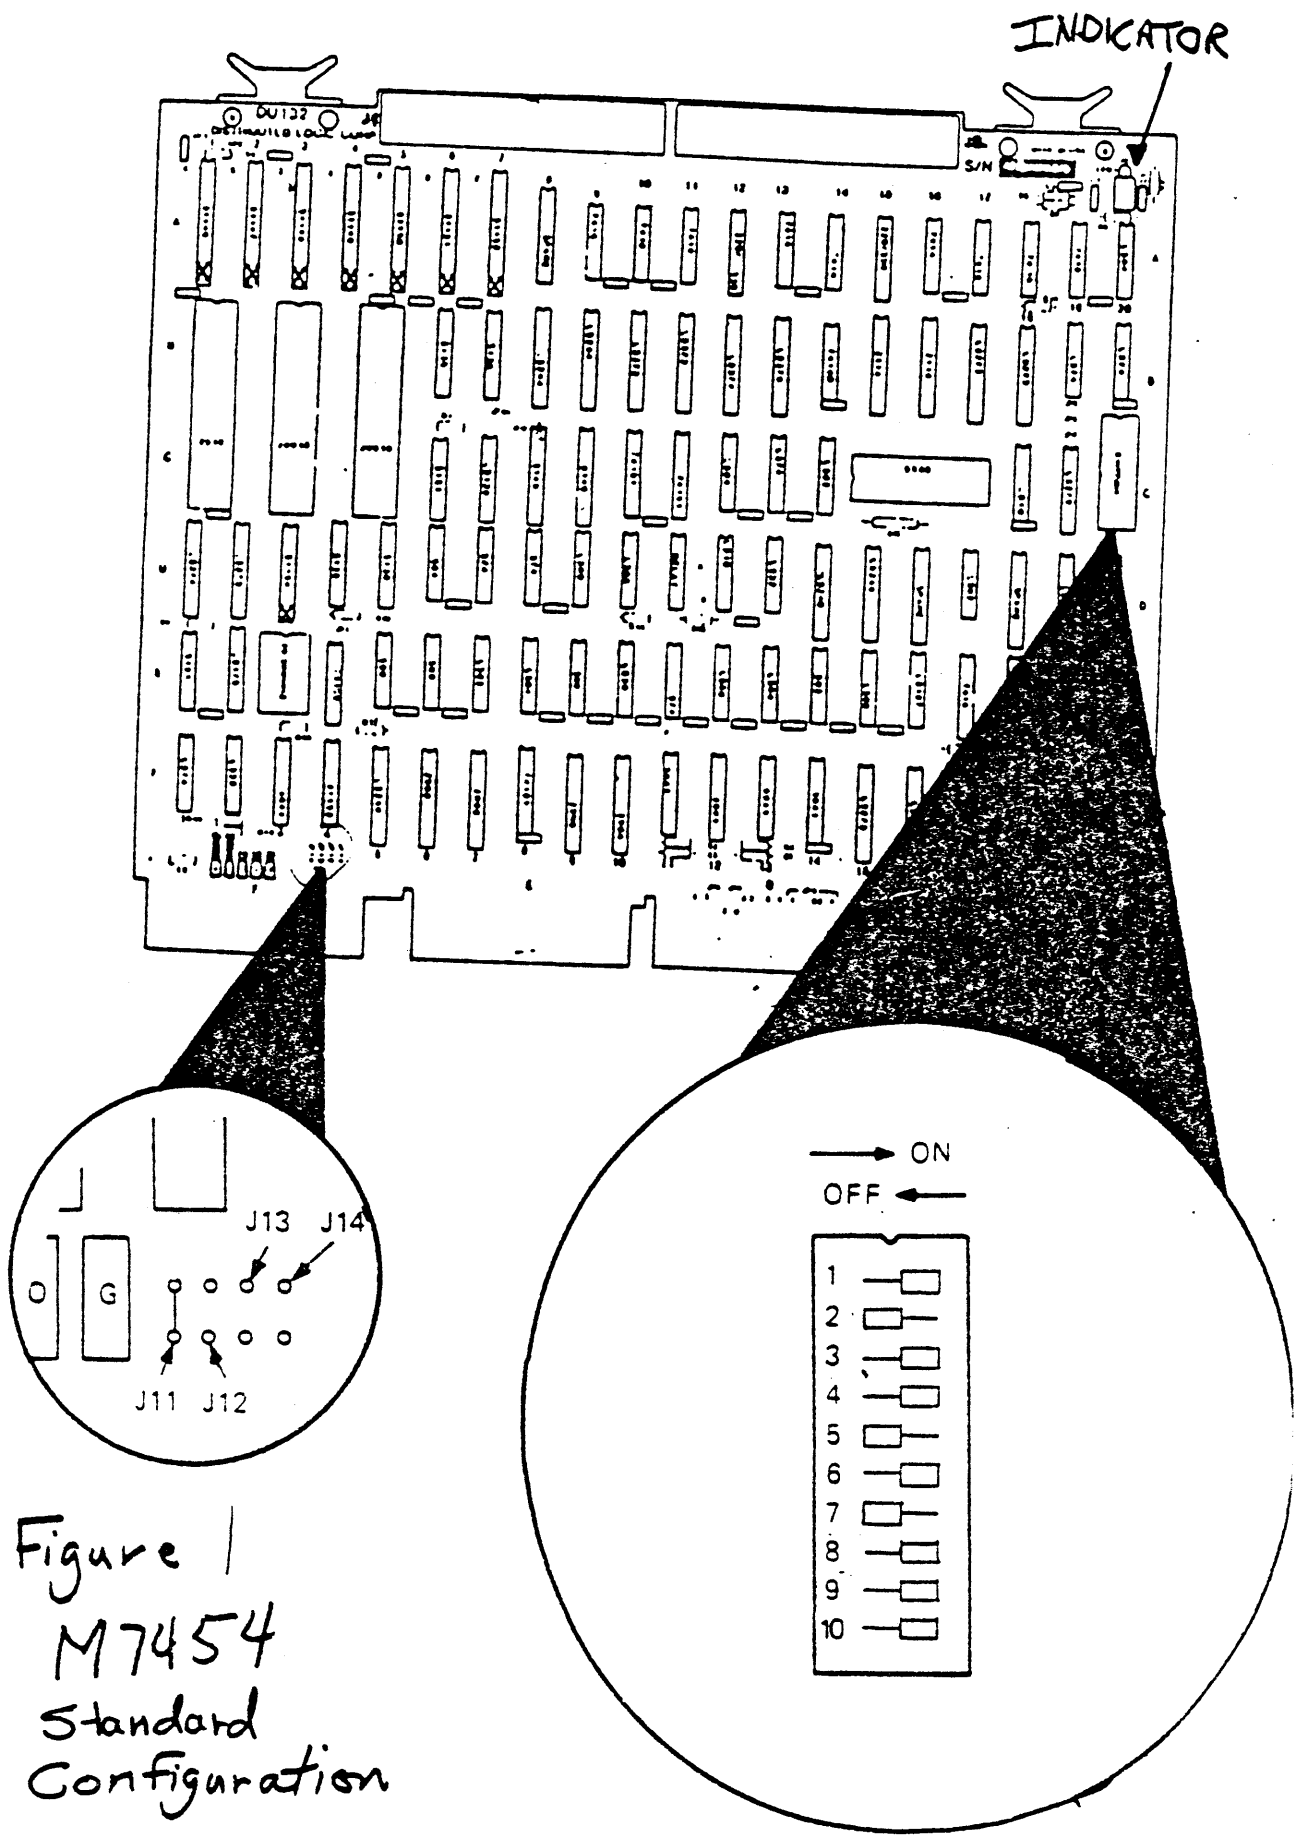

Figure 1
The M7454 (Figure 1) is installed in the UNIBUS backplane of the host.
As with all UNIBUS interfaces, the M7454 must be configured for a specific UNIBUS address and vector. The M7454 you just removed is probably set up as the first TU80 on the UNIBUS. This is the standard configuration as shown in figure 1.
The standard vector for the first (unit number 0) TU80 on a UNIBUS is 224₈ (094₁₆). This is set and is always the same. Figure 1 shows 224 selected.
- ___ 14. Power up the host system. Check to see that the M7454 indicator is on (Figure 1). If the indicator is lit, it signifies that the M7454 self-diagnostic has passed.